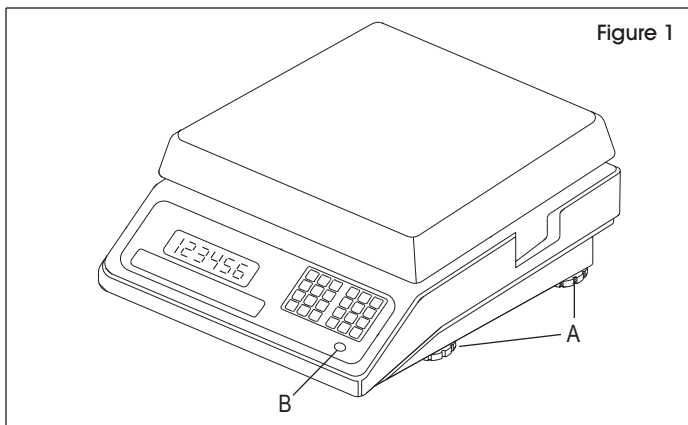

Figure 1
- Retract the right rear foot (A) completely into the scale. (See Figure 1)
- Adjust the two front feet (A) until the leveling bubble (B) is centered in the circle. (See Figure 1)